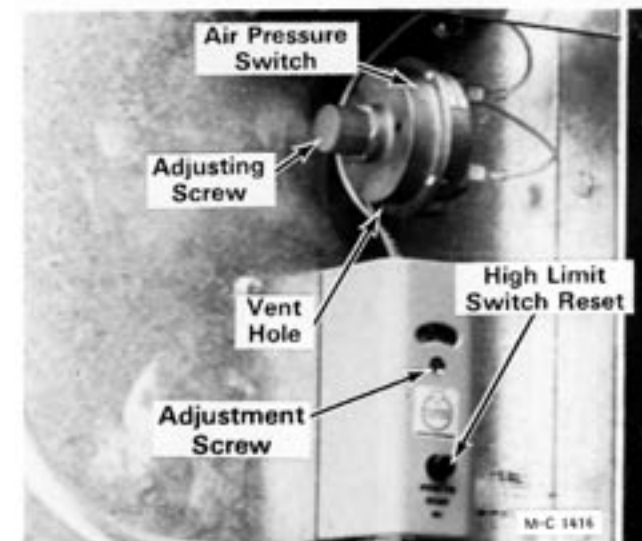
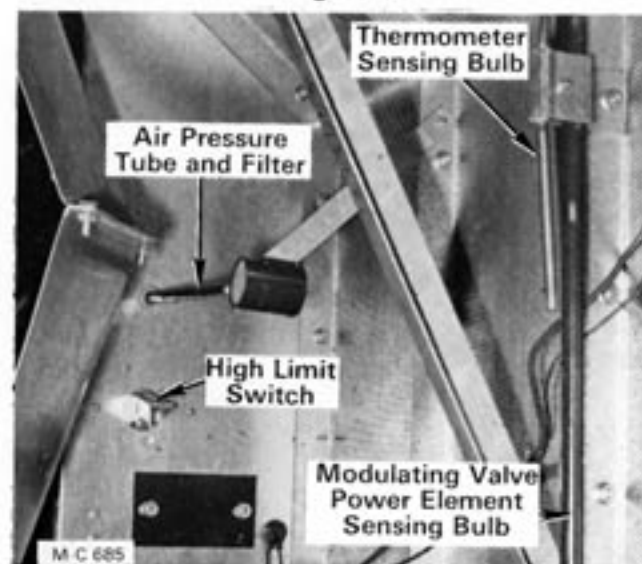

Figure 15
Figure 16
6. Flip the control circuit toggle switch ON. The control circuit ON light and high limit lights will be on. If the high limit lights are not on, push the reset button on the high limit switch, see Figure 15.
1. There is an air pressure switch for each heat chamber, see Figure 15. The air pressure switch senses the static air pressure in the heat chamber when the dryer is full of grain and the fan is running. If the static air pressure drops because of fan failure, the air pressure switch opens stopping current flow to the ignition switch. The gas solenoid valves will close and the burner will shut down.
is open, see Figure 15. Also check for an obstruction in the air pressure tube and filter, see Figure 16.
1. Remove the plastic cap on the air pressure switch. The slotted screw is the adjusting screw, see Figure 15.
8. If the High Limit Switch trips out, close the gas main hand valve and flip the ignition switch OFF. Push the reset button on the High Limit Switch to reset it, see Figure 15. Adjust High Limit 30° to 50° above operating temperature. This will avoid nuisance shutdowns during start up.